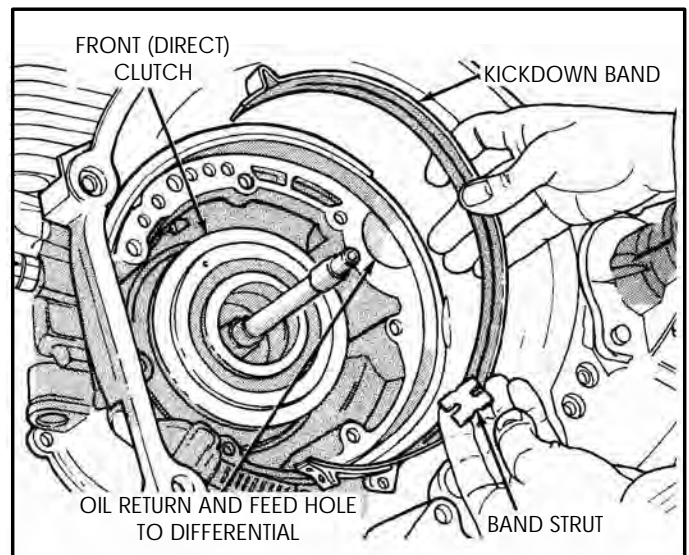

Figure 44
23. Remove the kickdown band and band strut, as shown in Figure 44.